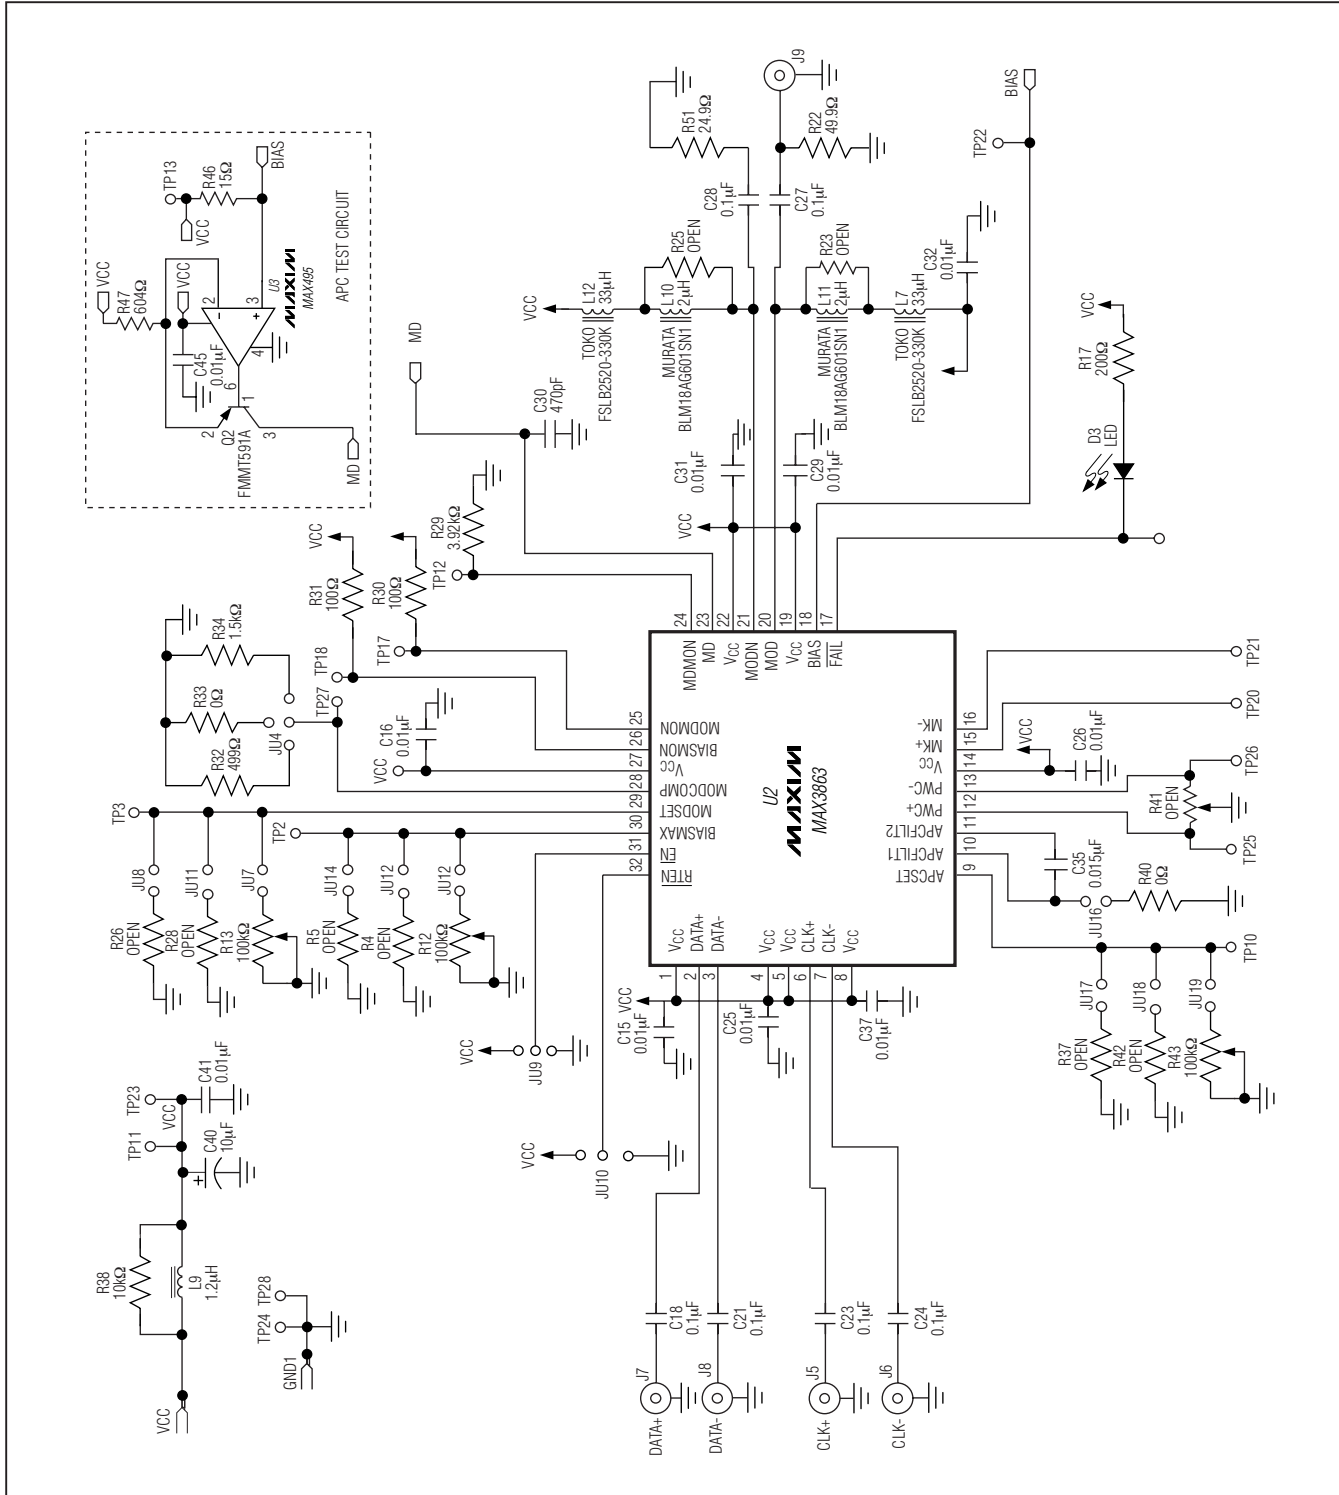

Figure 2. MAX3863 EV Kit Electrical Schematic
- 3) Remove JU16 to enable the APC loop. The bias current is controlled by R43 and the gain of the APC test circuit. See Figure 2.